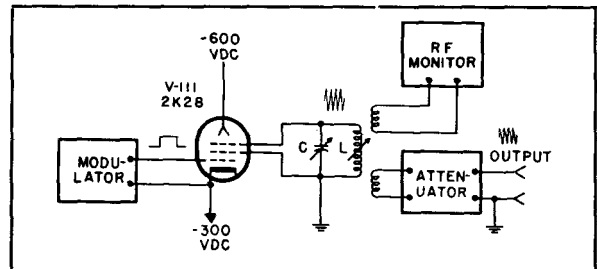
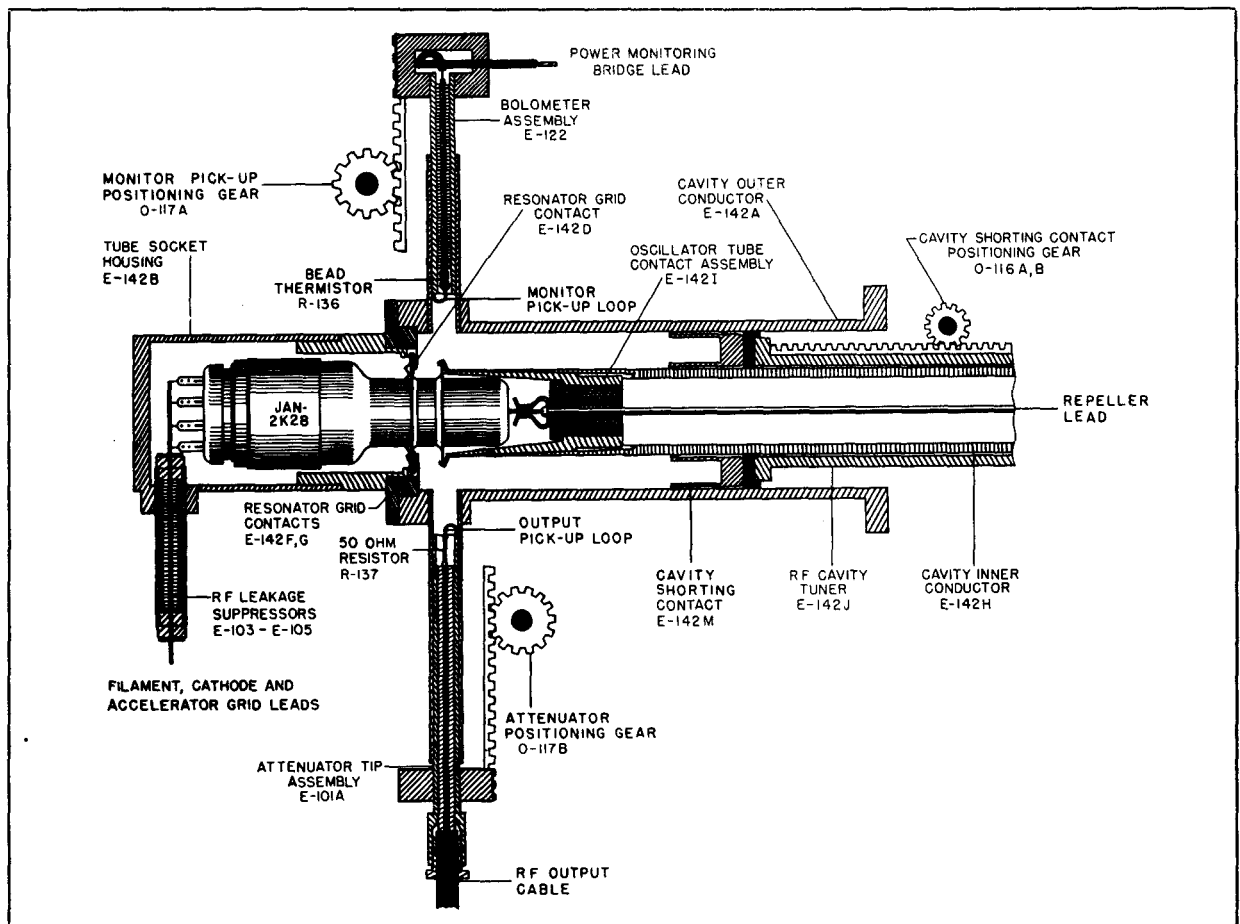

Figure 3-2. Equivalent Oscillator Circuit
Figure 3-3. Cutaway View of Oscillator
the external load. The oscillator circuit is that of a velocity-modulation tube operating with an external resonant cavity. The tube used is a type JAN-2K28 reflex klystron, the name "reflex" being derived from the fact that a single set of grids performs the dual function of bunching and then catching the electron stream. An equivalent circuit of the oscillator is shown schematically in figure 3-2.
The resonant circuit L and C in figure 3-2 connects to two tube electrodes known as resonator grids. Physically, the resonator grids of the tube are separated from the cathode by an accelerator grid which accelerates the electrons drawn from the cathode. The repeller electrode on the
Assuming that the circuit of figure 3-2 is oscillating, its operation can be considered as follows: the tank circuit and resonator grids are highly positive with respect to the cathode and the accelerator grid has been driven positive with respect to the cathode by the pulse from the Modulator so that electrons are drawn towards the positive resonator grids.
A cut-away view of the actual oscillator circuit used in the signal generator is shown in figure 3-3. The tuned circuit shown in the equivalent oscillator circuit of figure 3-2 is a resonant cavity which is tuned by changing the position of the cavity shorting contact. The output power is coupled to the external load by means of a pick-up loop. An identical loop is provided to supply power to the output monitor so that the amplitude of oscillation and thus the power applied to the output attenuator can be known at all times.
a. RF OUTPUT.-The rf power output from the oscillator is obtained from the resonant cavity by means of a pick-up loop located in a small section of waveguide which opens into the resonant cavity (figure 3-3). The cross-sectional area of the waveguide is small enough so that energy is usually considered not to be propagated directly down the waveguide; that is, the waveguide is smaller than the cut-off size of waveguide for these frequencies. However, a small amount of energy is propagated down the guide and this energy decreases exponentially as the length of the guide is traversed. Since the output power in decibels is proportional to the square of the voltage obtained, it is possible to move the pick-up in the waveguide by means of a gear system and to calibrate the gear system linearly in decibels of output power. This has been done in the TS-403/U, providing a directly calibrated power output system.
b. RF MONITOR.—In order that the power applied to the external load can be known, it is necessary that the current or voltage applied to the load (as well as the load itself) be known. In the TS-403/U, the fields within the cavity are monitored by a thermistor bridge circuit. A pick-up loop and piston type attenuator (figure 3-3) similar to the output system are used to feed a small amount of power from the resonant cavity to a bead thermistor R-136 which is part of the bridge circuit. The bridge is balanced for dc conditions and when the rf power from the resonant cavity is applied to the circuit, the bridge becomes unbalanced, the amount of unbalance being indicated by a dc microammeter connected across the bridge.